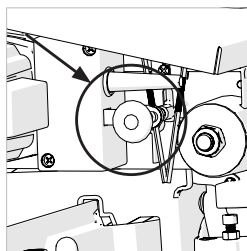

Fig. 6
- Pull out the Cutting Head Latching Pin and allow the Cutting Head to rise to its upmost position. **(Fig.6)**